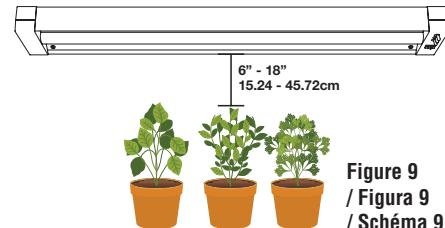

Figure 9
- c. Install Screw Eyes or Hooks (14) into ceiling joist or sturdy wooden surface.
- d. If necessary, remove links from 6.5' Chain (16) to adjust length for appropriate mounting height (see Figure 9).